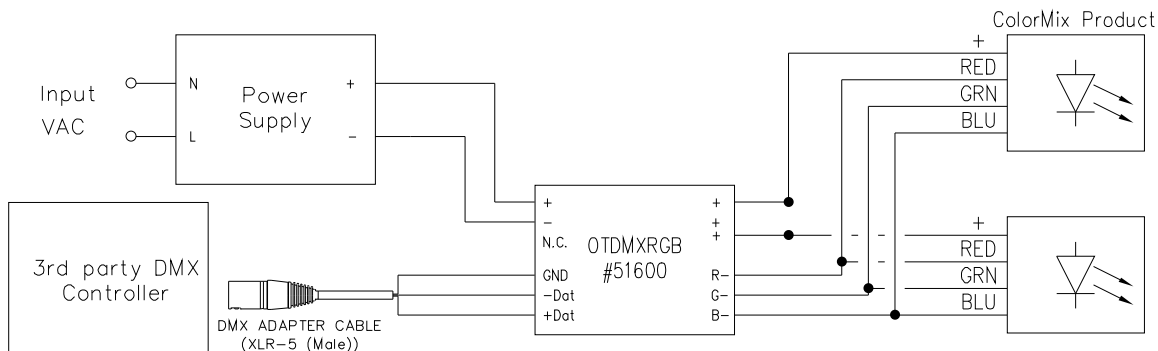

Figure 5: Single OT DMX RGB control interface with a DMX source system
- 2.4.2 Connect the stripped wires of the DMX cable to “Dat +”, “Dat -” and “GND” of the OT DMX RGB according to the Figure 5, for respected connector.